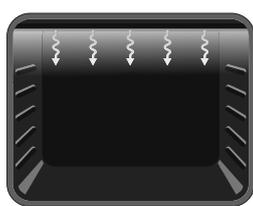

Fig. 2.14
- Insert the accessory to the correct position inside the oven (**Fig. 2.14**).
Top Oven Shelves (**Fig. 2.14**)